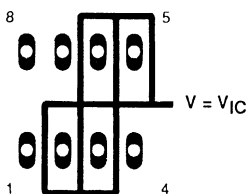
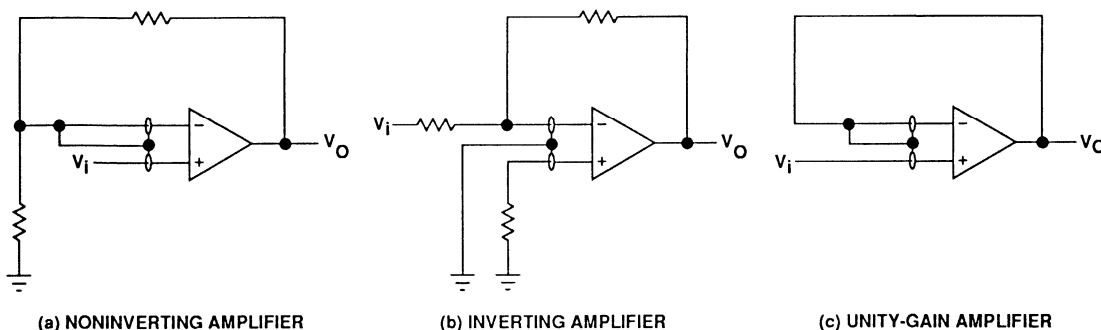

Figure 33. Isolation Metal Around Device Inputs
Figure 37. Guard Ring Schemes
1. Isolate the device from other potential leakage sources. Use a grounded shield around and between the device inputs (see Figure 33). Leakages that would otherwise flow to the inputs will be shunted away.
Because of the extremely high input impedance and resulting low-bias current requirements, the TLV2332 is well suited for low-level signal processing; however, leakage currents on printed circuit boards and sockets can easily exceed bias-current requirements and cause a degradation in device performance. It is good practice to include guard rings around inputs (similar to those of Figure 33 in the Parameter Measurement Information section). These guards should be driven from a low-impedance source at the same voltage level as the common-mode input (see Figure 37).